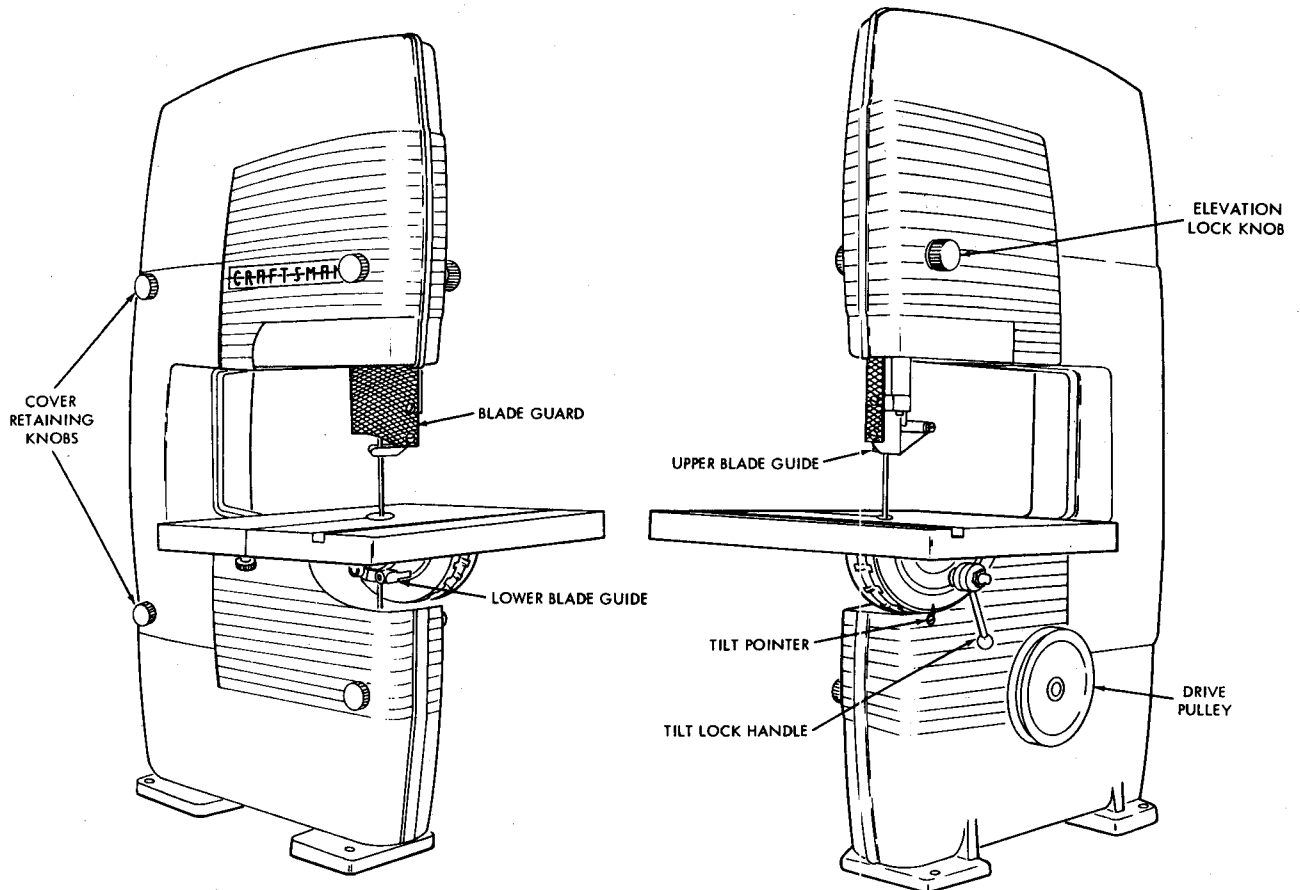
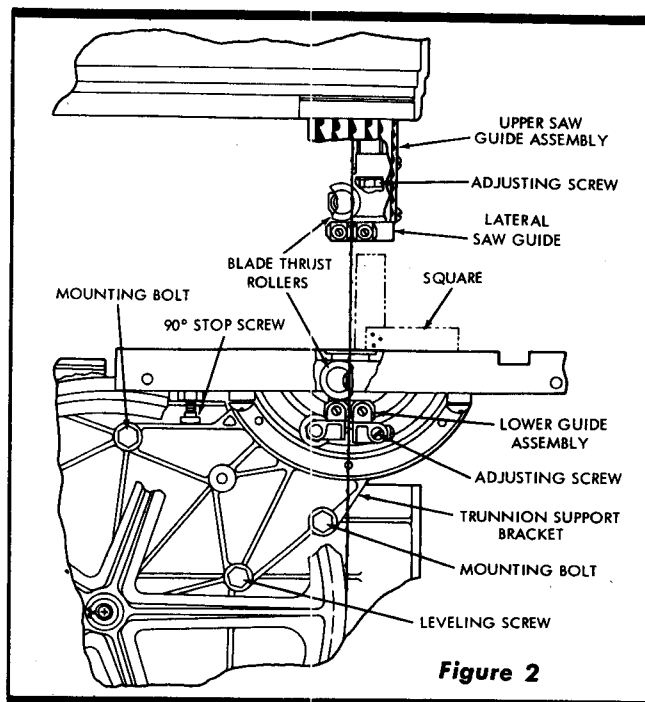

Figure 1
Figure 2
- a. Remove the four cover retaining knobs (1) and slide the cover (2) off the studs. (See figure 1.)
- b. Place the two mounting bolts (47) in the two holes of the trunnion support bracket (46) and mount the table (83) and trunnion support bracket (46) to the frame (82) as shown in figure 2. Leave these two bolts (47) loose enough to allow the entire assembly to be shifted.
- c. Insert the threaded stud (65), through leveling screw (67) and thread it to bottom of tapped hole in the frame.
- d. Place the lock washer (66) over the stud (65) and start the hex nut (32) on the stud. Tighten the nut to a snug fit. Tighten the two mounting bolts (47) to snug fit.
- e. Tilt the table so the 90° stop screw (84) is resting on the trunnion support bracket (46). Lock the table (83) in this position with the table tilt lock handle (79) as shown in figure 1.
- j. Lock the screw (67) in place with the hex nut (32). Finish tightening the two mounting bolts (47).
- l. Correct the squareness of table to side of blade (if necessary), by adjusting the stop screw (84). (See figure 2.)
- b. Adjust the saw guide assemblies so the lateral saw guides (when adjusted) will contact the blade on the solid portion only, not on the teeth or valleys between teeth. (See figure 2.) This is accomplished by loosening the saw guide assembly adjusting screws and moving the saw guide assemblies forward or backward as required. When the adjustment is correct, lock the saw guide assemblies in position.
- f. The table should be square with the blade and, at the same time, the pointer should indicate zero on the scale. If a correction is necessary, it may be made by placing an accurate square on the table surface and against the saw blade. (See figure 2.) Adjust the 90° stop screw until the adjustment is correct.
- g. The table tilt pointer may now be readjusted to the zero mark on the scale by loosening the screw which holds the pointer to the saw. (See figure 1.)
**1. Controls.** The operator should become familiar with all controls before operating the saw. A little time spent in this effort will protect the saw and insure operational safety. (See figures 2 and 4.)
The blade thrust rollers should be lubricated occasionally. (See figure 2, for locations of these rollers.) Other moving and sliding parts such as the guide slide bar (15, figure 5) and table trunnions (52 and 45) may require occasional lubrication to maintain smooth operation.